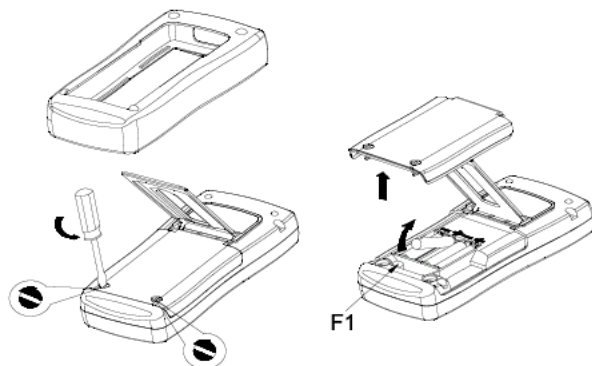

Figure 16 Replacing batteries and fuses
Step 2: Remove the protector as shown in Figure 16. With a standard blade hand screwdriver, turn each battery door screw a quarter counterclockwise to remove the battery door.